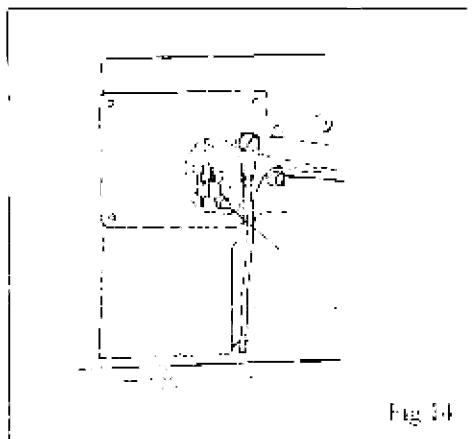

Fig.14
- 1) Remove the cover G (Fig.2) and loosen the screw 1 (Fig.14) slightly